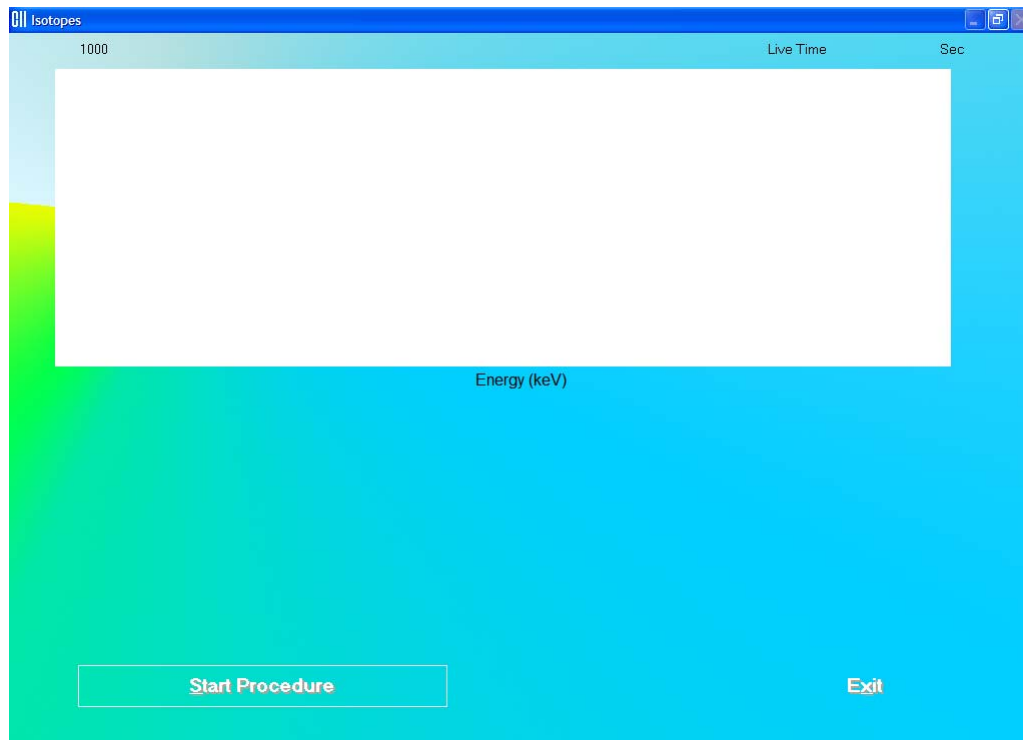

Figure 5-13
- c. Click the **Next** button. Figure 5-13 will appear.